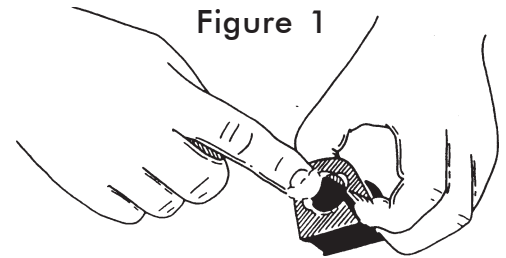

Figure 1
3. Apply the supplied grease to the poly bushings (Figure 1) and put the bushings on the anti-sway bar.